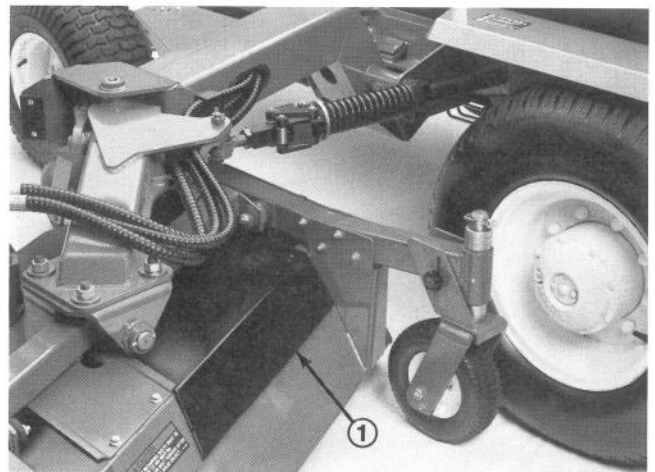

Figure 53
2. Remove the inner deck pulley cover (Fig. 53).